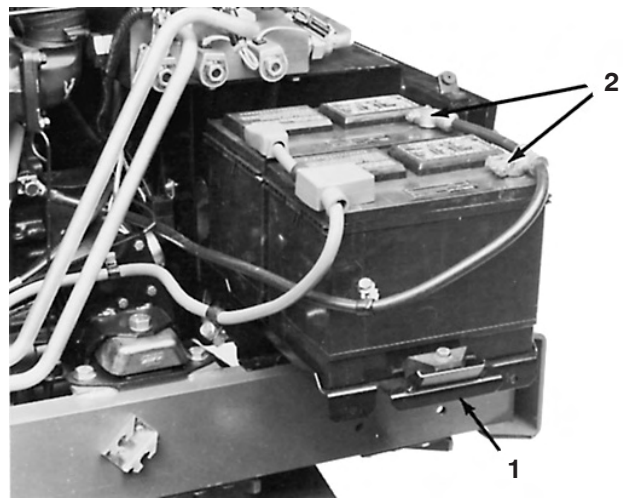

Figure 57
2. Remove capscrews securing battery tray to machine and slide tray out (Fig. 57).
4. Remove negative (–) battery cable connectors from batteries (Fig. 57). Connect a 3 to 4 amp. battery charger to the posts. Charge the batteries at a rate of 3 to 4 Amperes for 4 to 8 hours.